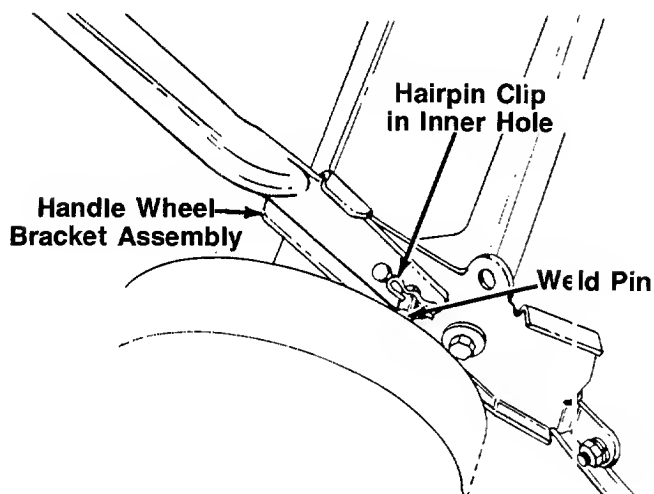

FIGURE 1.
3. Using a pair of pliers, squeeze on leg of the lower handle against the handle wheel bracket assembly. Insert the hairpin clip into the **inner** hole on the weld pin. See figure 1. Repeat on other side.